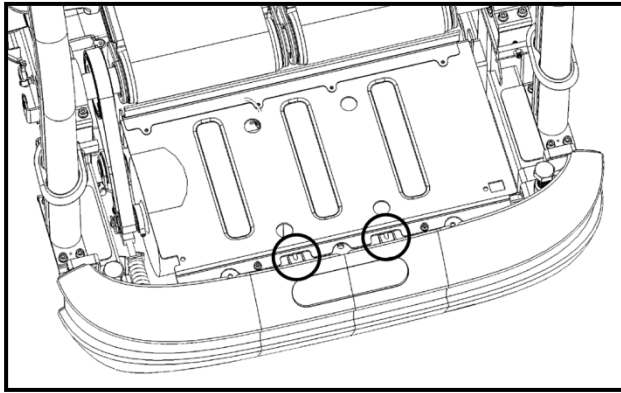

Fig. 23
22. Mount the rear shroud to the TreadClimber® base and secure it in place by installing the corresponding five phillips head screws to the top (Fig. 23) and lower (Fig. 24) sections at the circled locations.